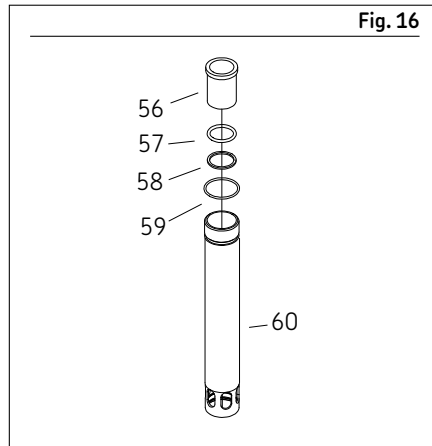
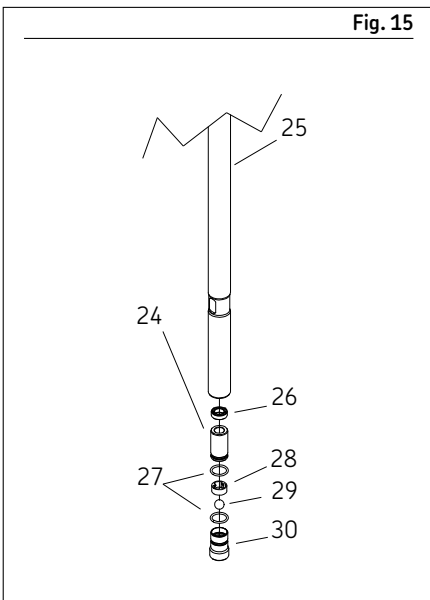
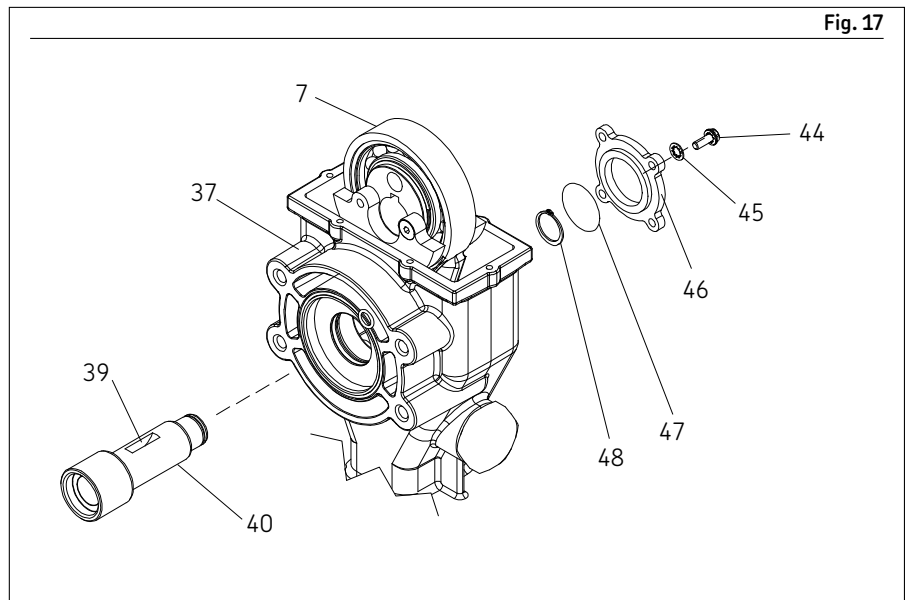

Fig. 16
Fig. 15
Fig. 17
- 27 Insert and thread wrist pin bushing screws (11) into crankrod (7).
- 28 Torque bushing screws (7) to torque of 110–125 in-lbf (12,4–14,1 Nm).
- 29 Install cup seal (26) with slotted side toward center of reciprocating tube (25) (→ Fig. 15).
- 30 Place new o-ring (27) on lower bushing and plunger (24).
- 31 Slide lower bushing and plunger (24) into reciprocating tube (25) with o-ring (27) near bottom of reciprocating tube (25).
- 32 Install steel check cage (28) into reciprocating tube (25).
- 33 Install ball (29) into steel check cage (28).
- 34 Apply Loctite® 242® or equivalent to threads of check seat housing (30).
- 35 Thread check seat housing (30) into reciprocating tube (25) and tighten using 3/8 in hex key.
- 37 Remove crank rod (7) from vise.
- 38 Insert o-ring (59) into housing tube (60) (→ Fig. 16).
- 39 Place back up washer (58) into housing tube (60).
- 40 Insert o-ring (57) into housing tube (60).
- 41 Insert bronze bearing (56) into housing tube (60).
- 42 Position crankrod assembly (7) over top of pump housing (37) and lower into pump housing (37) (→ Fig. 17).
- 43 Align crank rod (7) with shaft (40) mounting hole.